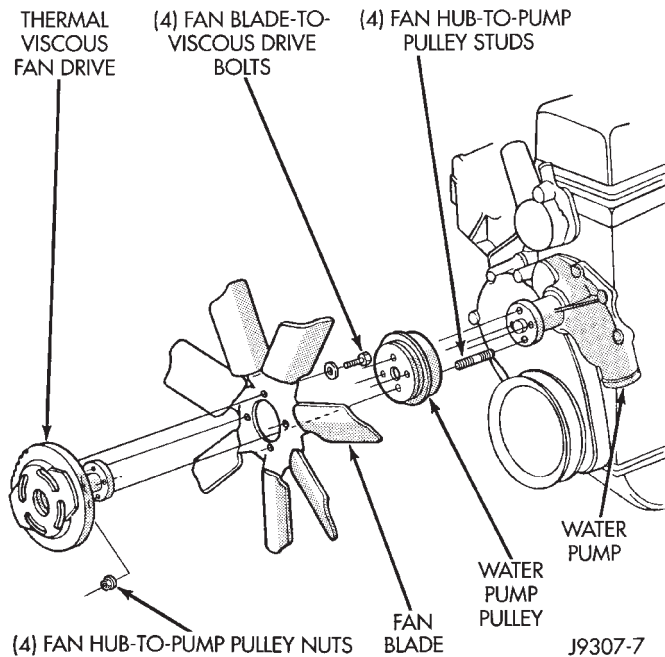

Fig. 28 Fan Mount
- (1) Loosen but do not remove at this time, the four fan hub mounting nuts (Fig. 28).
(2) Remove accessory drive belt. Refer to Belt Service in the Engine Accessory Drive Belt section of this group.
(3) Some models with certain engines may require the removal of the fan shroud to remove the viscous fan drive. The fan shroud and fan blade/viscous fan drive should be removed from the vehicle as one assembly.
(4) Remove four fan hub mounting nuts (Fig. 28) and remove fan/viscous fan drive assembly from vehicle.
(5) After removing fan blade/viscous fan drive assembly, **do not** place thermal viscous fan drive in horizontal position. If stored horizontally, silicone fluid in viscous fan drive could drain into its bearing assembly and contaminate lubricant.